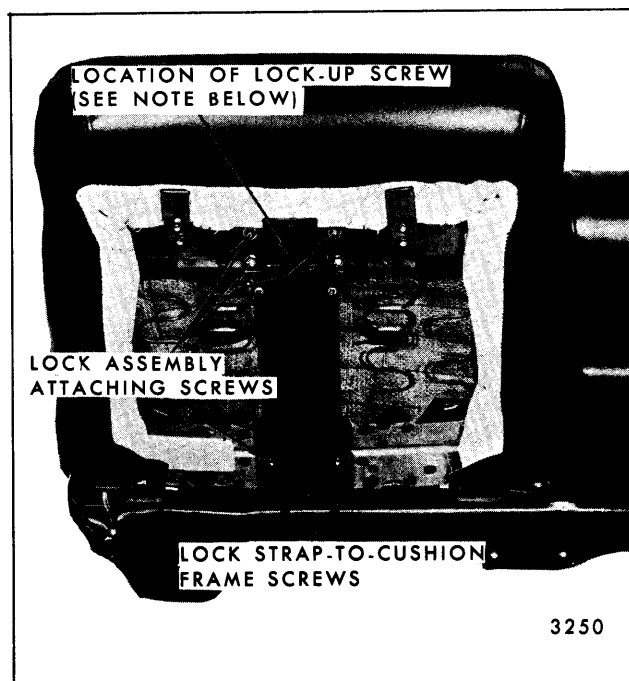

Fig. 15-53—Strato Seat Back Lock Assembly
same lock assembly, install lock-up screw (8-32 x 1/2" screw) at location shown in Figure 15-53.
3. Remove lock strap-to-cushion frame attaching screws (Fig. 15-53).
4. Remove lock assembly attaching screws (Fig. 15-53) and remove lock assembly from seat back.
**IMPORTANT:** After all lock assembly attaching screws, including lock strap-to-cushion frame screws, have been tightened, remove lock-up screw at location shown in Figure 15-53.